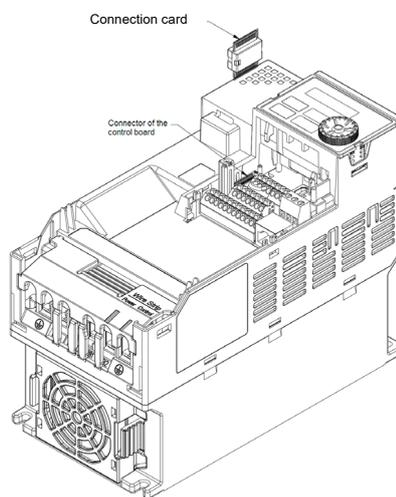

Figure 8-2
2. Mounting the connector: as shown in the Figure 8-2, aim the adapter / option card at the connector on the control board and then insert it to the connector.